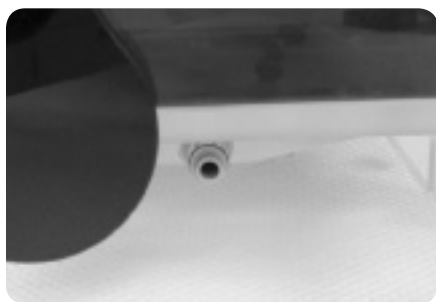

Fig 22. Drain port.
- 8 Attach a length of tubing long enough to reach a sink to the drain connector (Fig 22). Insert the connector into the drain port on the lower left side of the SE900, behind the black safety interlock.